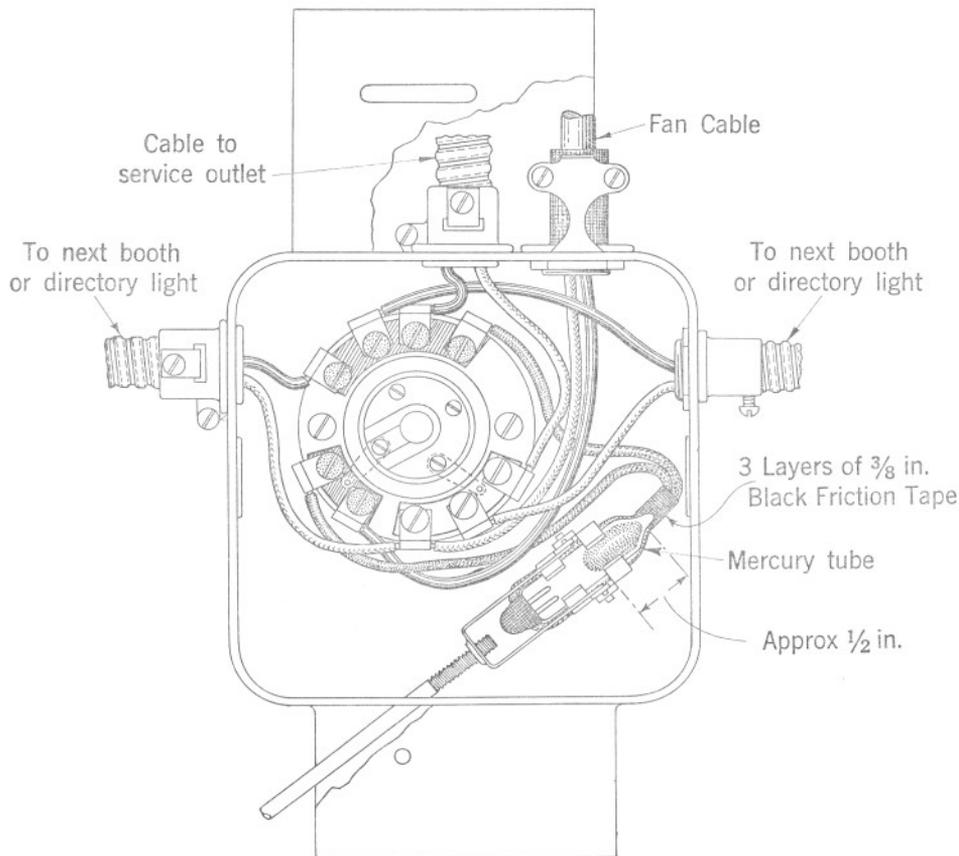

Fig. 10 — 3A Light Fixture Viewed from Within the Booth
6.01 At the 3-type light fixture, make cable connections as shown in Fig. 10 and connect each cable shown only when required. When 3-wire cable P-370288 is used, the ground conductor (green) is automatically grounded to the fixture through its box connection.
7.05 Make connections to the booth lamp receptacle as shown in Figs. 10 and 11.
11.09 A KS-8164 ventilator can be installed readily by passing a strong cord or wire downward through the 1-inch hole, tying it to the end of the fan cable, and then pulling the cord or wire while lifting the ventilator upward into place. Put washer, nut, and bushing on cord or wire in proper sequence and tie to door handle. Replace washer and nut on pipe stem projecting through ceiling, leaving hand tight while checking from within the booth that the ventilator is in proper position in relation to both walls of the booth. Tighten nut and bushing, remove cord or wire, and fasten cable and connector at light fixture as shown in Fig. 10.